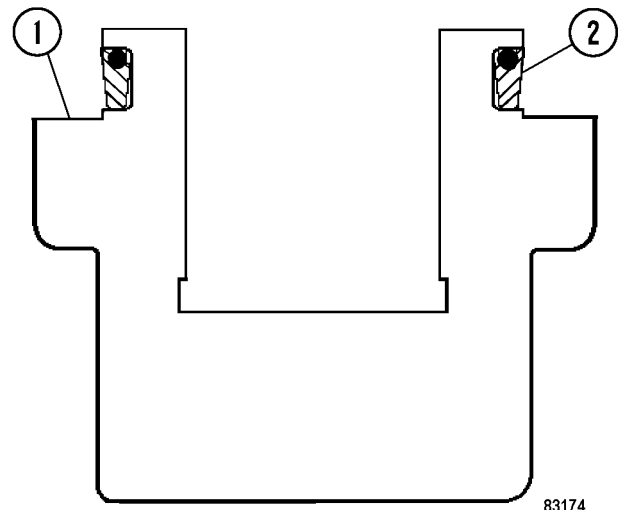

FIGURE 5-29. SEAL INSTALLATION
42. Clean end cap (24) and ensure the seal groove is clean and free of any flaws.
43. Lightly lubricate new seal (22) with clean hydraulic oil and install the seal onto the end cap. Refer to Figure 5-29 for the correct orientation of the seal. **DO NOT** use any tools to install the seal. Damage to the seal may occur and oil leakage may result.